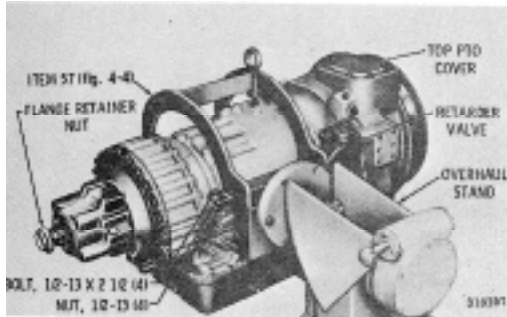

Fig. 7-63 Removing transmission from overhaul stand
(1) Attach a hoist to the holding fixture that is secured to the transmission (fig. 7-63).
(2) Remove all fasteners that retain the holding fixture and the transmission to the overhaul stand. Remove the transmission and fixture from the overhaul stand.
(3) Remove the four bolts and nuts that retain the holding fixture to the transmission. Remove the fixture.
(4) Install any nuts, bolts or washers that may have been blocked by the transmission holding fixture (fig. 7-63). Tighten the nuts to 83 to 100 pound feet (113 to 135 Nm) torque; tighten the bolts to 67 to 80 pound feet (90 to 108 Nm) torque.